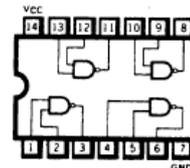

Fig. 2. Pin-out for 7400 chip (top view).
**Measurements. Part (A):** As an initial exercise to familiarize yourself with the Digi-Designer as well as a 7400 chip, verify the truth table for a 7400 quad 2-input Nand gate as follows: insert the chip so that the identifying mark (an indentation, small circular well, or short slot) is located on the left as you address the chip and Digi-Designer. Careful adherence to this orientation should minimize confusion regarding pin layout and insure the applicability of Fig. 2. Check the first gate (pins 1, 2 and 3) by using LOGIC SWITCHES on both inputs and a LAMP MONITOR on the output. Check the second gate by using one LOGIC SWITCH and a PULSER for the inputs. Check the third gate (pins 8, 9 and 10) using PULSERS on both inputs, and check the fourth gate by driving it with one LOGIC SWITCH and the output from the CLOCK. In the last case, use a second LAMP MONITOR to observe the state of the CLOCK, and run the CLOCK at 1Hz.